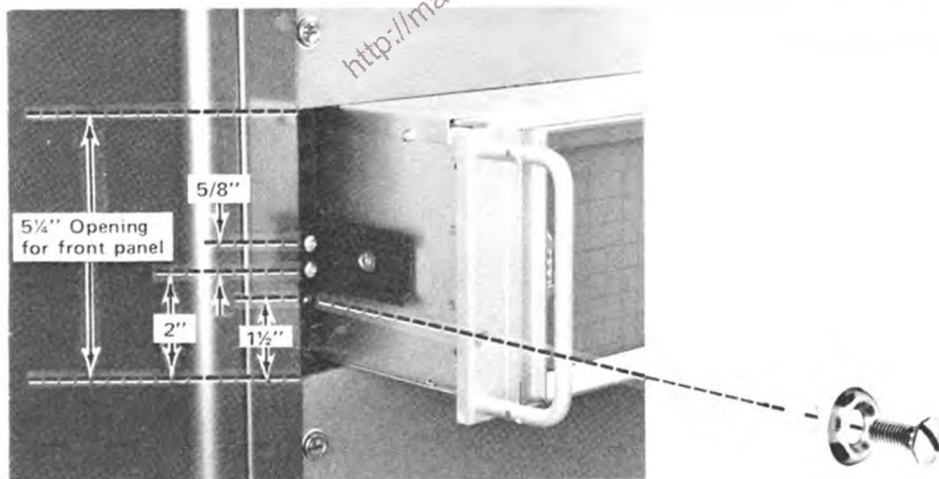

Fig. 6-2. Locating the mounting holes for the left stationary section. Same dimensions apply to right stationary section.
1. Select the proper front-rail mounting holes for the stationary sections using the measurements shown in Fig. 6-2.
screws and washers shown in Fig. 6-2. If the securing hole is not tapped, use a "speed-nut" or similar item to install the securing screw.